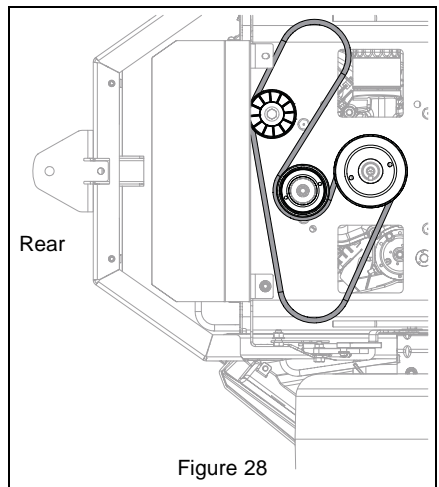

Figure 28
1. Install ground drive belt. See Figure 28.